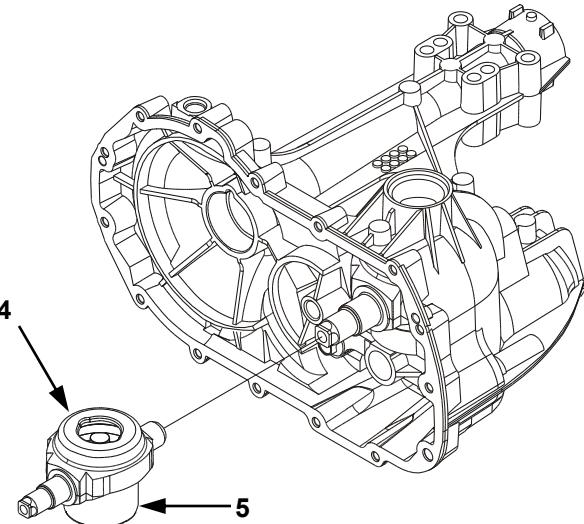

Figure 15
9. **(See Fig. 15)** Remove the swashplate (4) and pump cylinder block (5) as one assembly. NOTE: Removal will be aided by applying a small amount of pressure on the trunnion mounted swashplate towards the center section. Also note that the control arm (18, Page 32) may be loosely assembled at this point to assist in swashplate removal. While gently removing the swashplate and block assembly, keep the block face flush with the center section to minimize damage to the running surface.